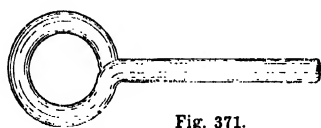

Fig. 371.
Figs. 371 and 372.—Cutting Glass Bottle with Hot Iron.
**Cutting Glass Bottles.**—The following is a simple method of cutting a glass bottle. Procure a piece of  $\frac{3}{8}$ -in. round-iron rod (thinner would do, but the  $\frac{3}{8}$ -in. will keep the heat longer), about 2 ft. long, and bend it at one end in form like an eye-bolt, as shown in Fig. 371, making the eye of a size sufficient to slip down over the neck of the bottle to the point where it is to be cut. Place the iron in the fire, and while it is heating place the bottles on the hearth or table near to hand, together with a bucket about three parts full of cold water. Now take the red-hot iron in the right hand, and press it down over the neck of the bottle